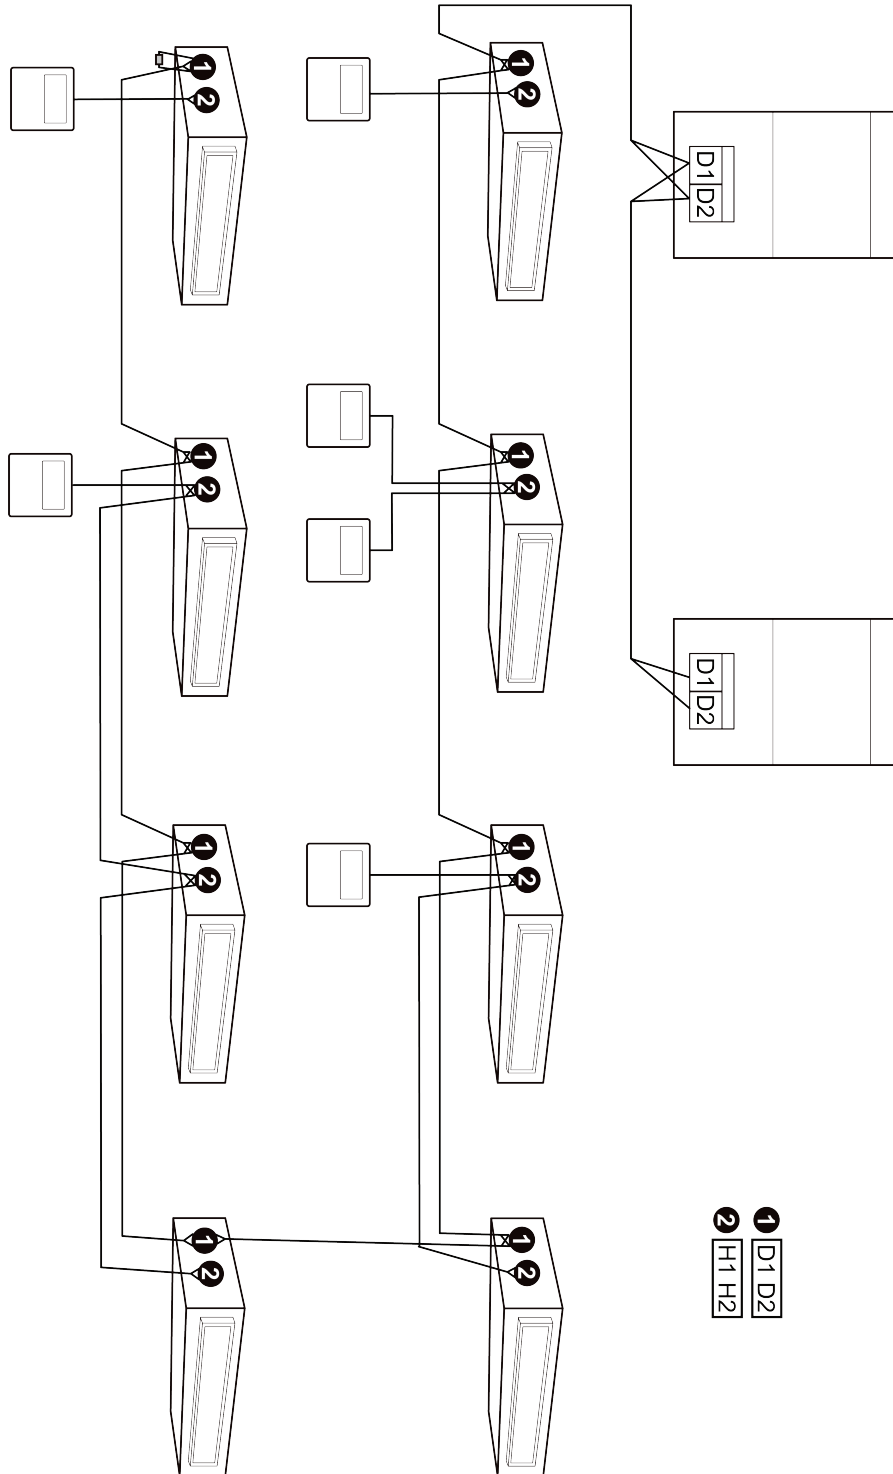

Fig 5.5.1
- (1) Communication between IDU and ODU is D1 while communication among each IDU is D2.
- (2) Communication between IDU and wired controller is H1, H2.
- (3) One indoor unit can connect two wired controllers (master wired controller and sub-master wired controller).
- (4) One wired controller is able to control 16 indoor units at the same time (shown in Fig 5.5.1).